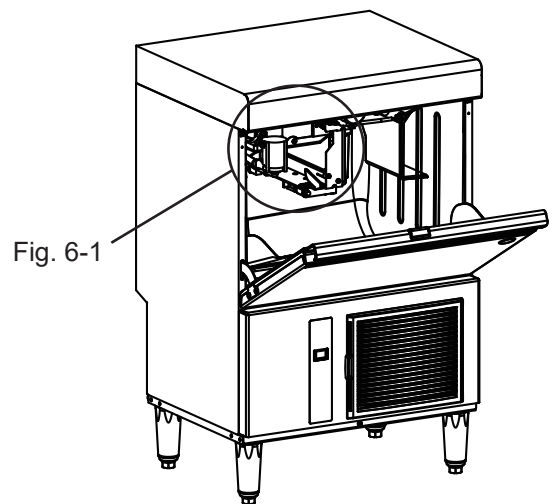

Fig. 6
- 5) Remove the ice guide from the unit frame. See Figs. 6 and 6-1.
- 4) Replace the ice guide. See Figs. 6, 6-1 and 6-2.